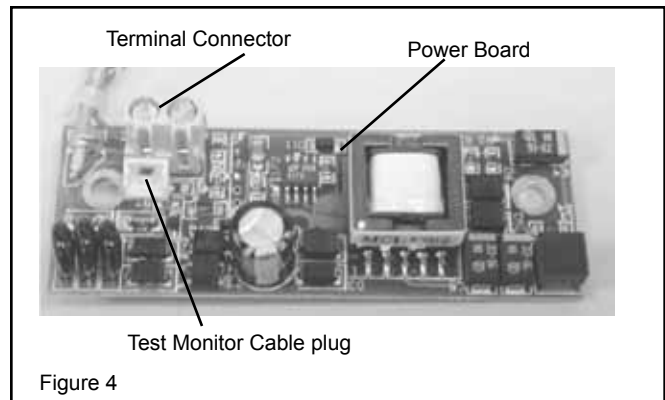

Figure 4
2. Locate the power board on the inside of the housing. The Test Monitor Cable plug is located beside the terminal block where incoming power is connected (Figure 4).